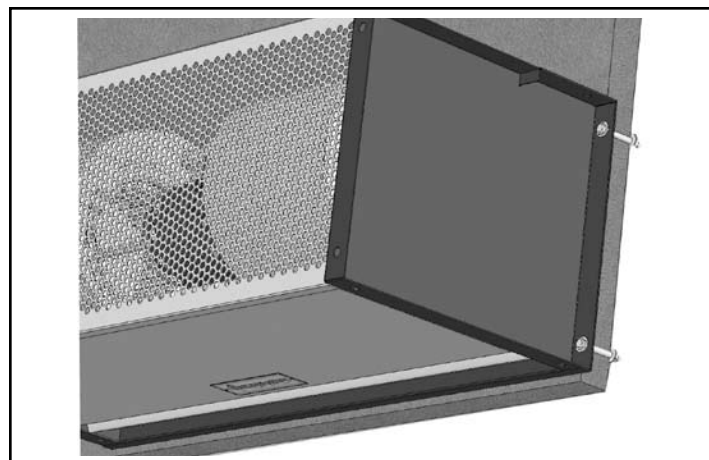
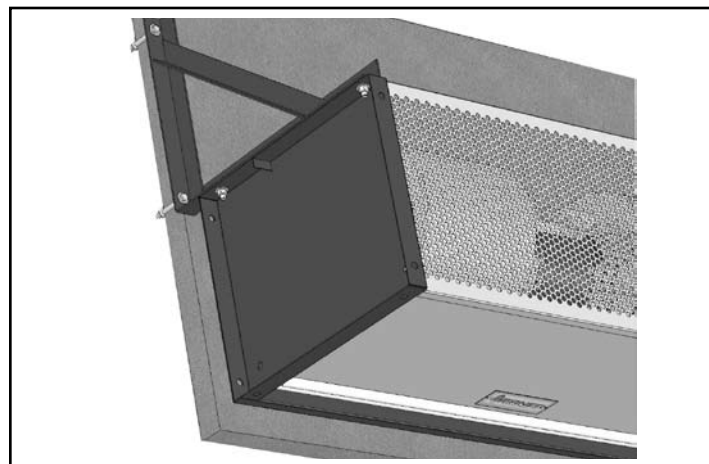

FIGURE 1 - Wall Mounting
FIGURE 2 - Wall Mounting Bracket
- B. The VSA/VSB series endplates are equipped with $\frac{1}{2}$ " holes for wall mounting. The unit may be attached to the wall using, at minimum, $\frac{3}{8}$ " bolts through the holes on the back of the endplate. **See Figure 1.** Or, the unit may be attached using an optional wall mounting bracket or a combination of extension and wall mounting brackets (available from Berner) attached to the holes on the top of the endplate and the wall. **See Figure 2.**